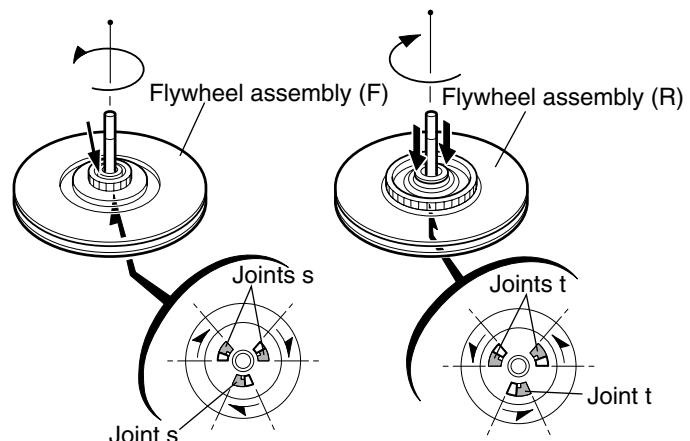
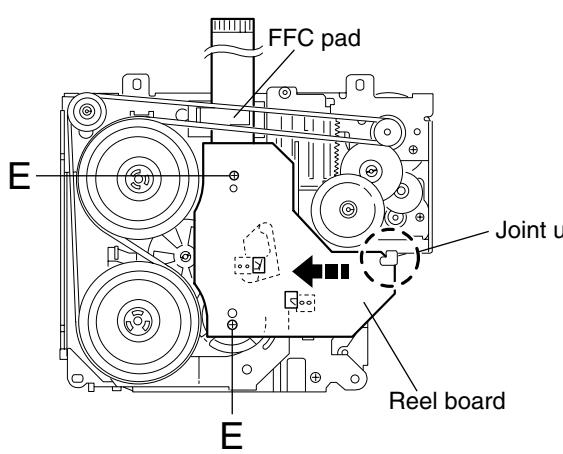

Fig.22
Fig.25
■Disassembling the flywheel assembly (F) (See Fig.22 and 23)
- Push and turn counterclockwise the spring holder (F) to release the three joints **s** on the bottom of the flywheel.
- The spring holder (F), the TU spring and the friction gear play come off.
■Disassembling the flywheel assembly (R) (See Fig.22 and 24)
- Push and turn clockwise the spring holder (R) to release the three joints **t** on the bottom of the flywheel.
- The spring holder (R), the FF spring and the friction gear FF come off.
■Removing the reel board (See Fig.25 and 26)